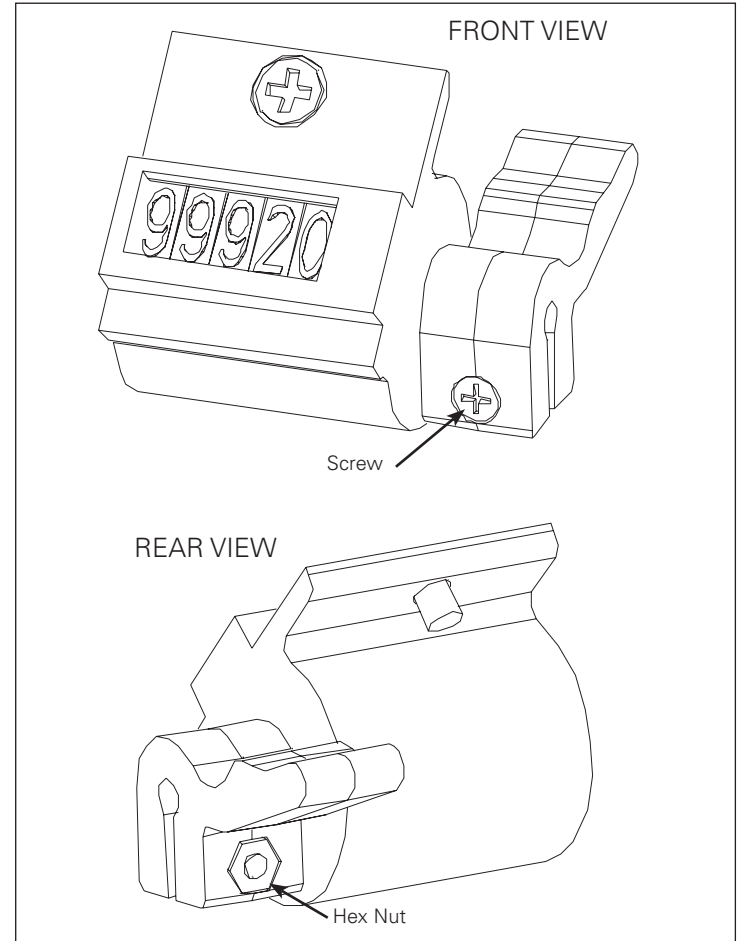
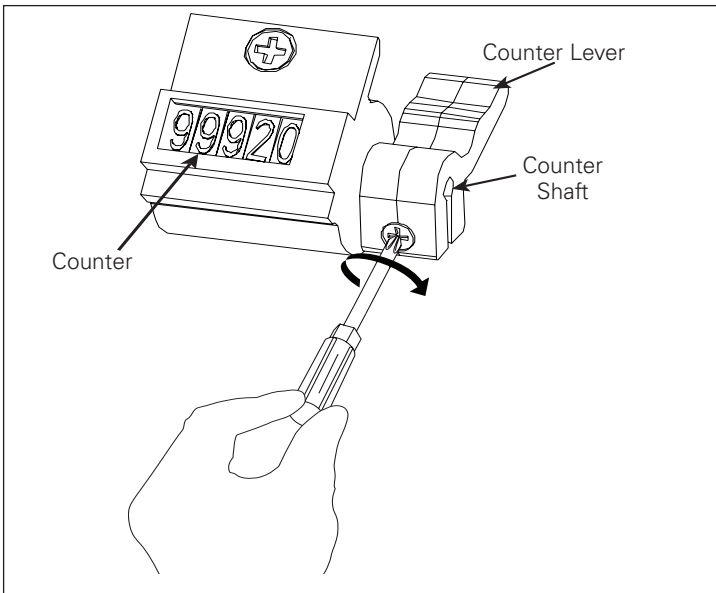

Figure 3. Counter Lever Mounted with Screw and Hex Nut
Figure 6. Step 3
- Counter lever, screw (M2 x 8) and hex nut (M2) (**Figure 3**)
Step 3: If the counter lever is already loosely installed on the counter shaft as shown in **Figure 3**, skip Step 3 and go to Step 4. If the counter lever is not loosely installed on the counter shaft, proceed with Step 3. Loosely install the counter lever on the counter's shaft (**Figure 6**) using the provided M2 x 0.4 screw and nut. The screw should not be torqued tight at this point to permit movement of the counter lever on the shaft.
Step 2: Loosen the counter lever screw by one turn. Refer to **Figure 6**.